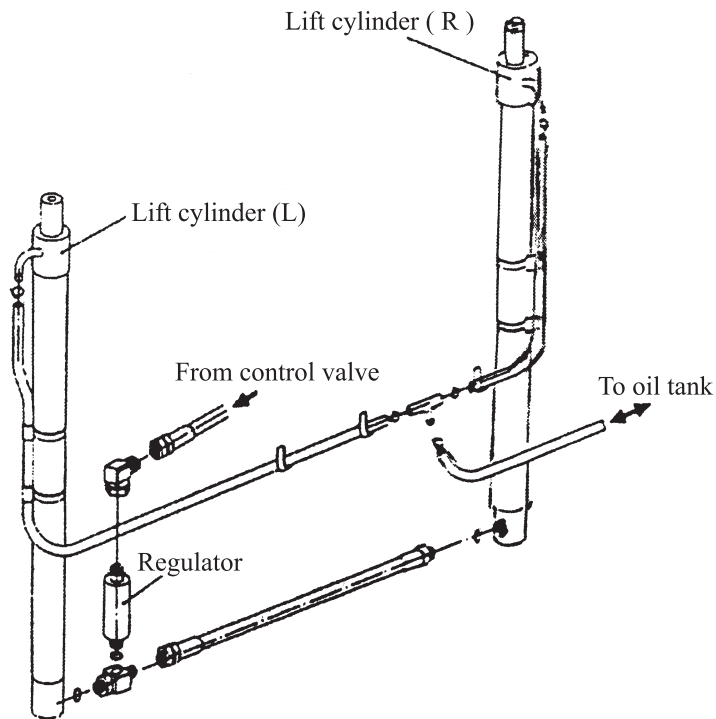
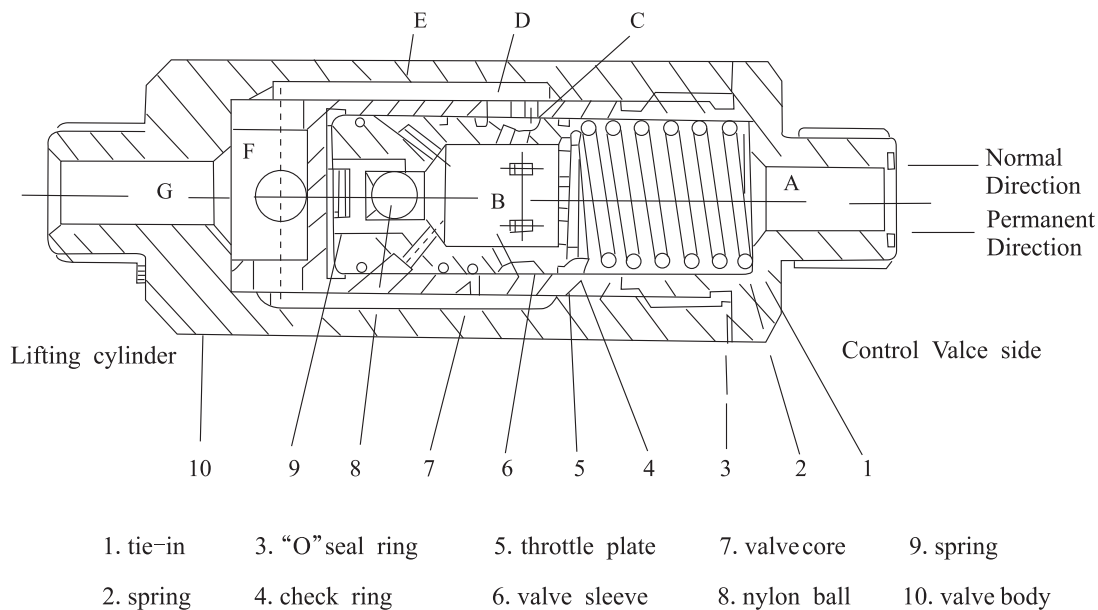

Fig. 8-4 Regulator mounting position
Fig. 8-5 Flow regulator valve(5-7t truck)
The flow regulator valve is located between the control valve and the high pressure ports of the two lift cylinders, near the left cylinder (See Fig. 8-4). The structure of the flow regulator valve as shown in Fig. 8-5. The structures of 8 ton and 10 ton forklift trucks are almost the same as 5 to 7 ton forklift trucks. No.3 in Fig. 8-5 is taper helical spring for 8 ton forklift trucks and is coil spring for 10 ton forklift trucks.
See Fig. 8-5. With the forks upraised, high pressure oil led from the control valve flows into the chamber(A) and shifts the sleeve (2) to the left. This opens the opening (G) to allow the high pressure oil to flow along the two routes(A-B-C-D-E and A-B-C-D) and both flows of oil lead to the lift cylinders. In this case, the flows of oil is not regulated. When the forks begin to lower oil discharged from the lift cylinders enters the chamber(E) and shifts the sleeve unit it contacts the nipple. This closes the opening (C) so that oil flows through (E), (D),(H),(C),(B)and (A) to the tank. If the amount of oil discharged from the lift cylinders is rapidly increased, the pressure in the chamber (F) rises and moves the piston (5) to the right in spite of the spring force, narrowing the opening (H). So the flow of oil from the chamber (D) to the chamber (C) is decreased so that the descending speed of the forks is controlled.